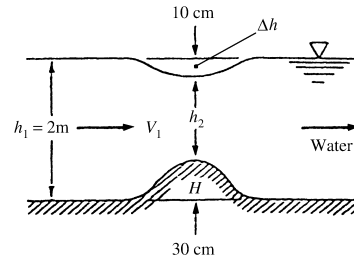

Fig. P3.175
3.175 If the approach velocity is not too high, a hump in the bottom of a water channel causes a dip Δh in the water level, which can serve as a flow measurement. If, as shown in Fig. P3.175, $\Delta h = 10$ cm when the bump is 30 cm high, what is the volume flow Q_1 per unit width, assuming no losses? In general, is Δh proportional to Q_1 ?